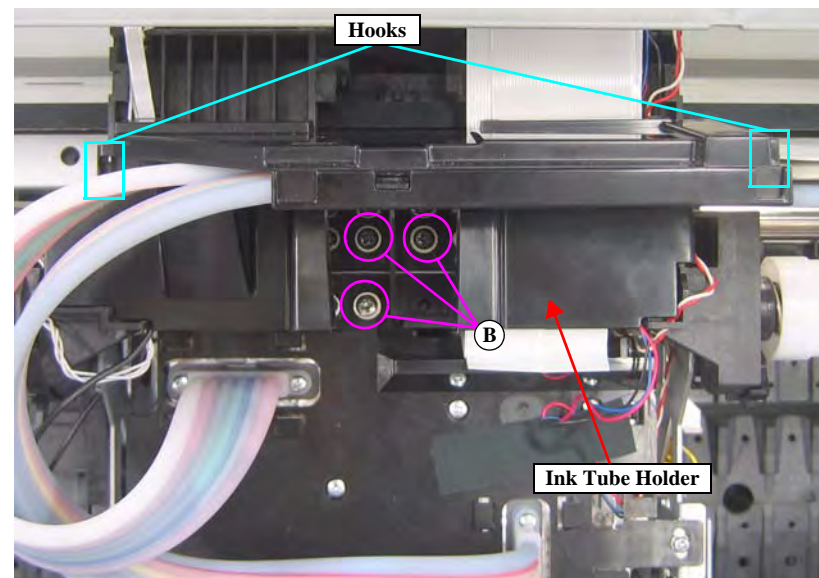

Figure 4-156. Removing the Ink Tube Holder
15. Remove the three screws that secure the Ink Tube Holder. *See Figure 4-156.*